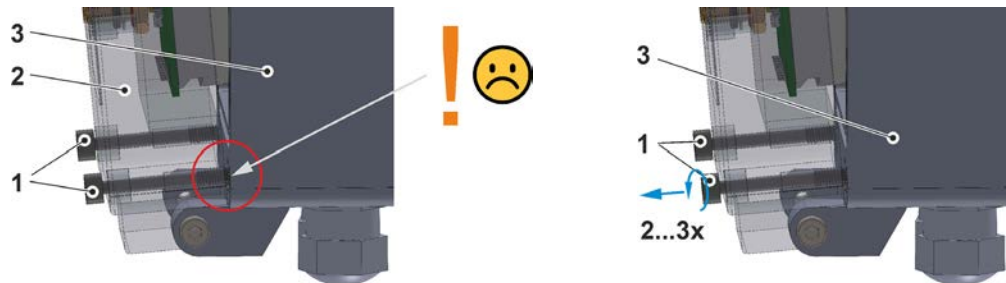

Fig. 23-3 Screw plugs: collision / unscrewing
- Step 1:** Unscrew six screw plugs (Fig. 23-2 Pos. 1 / Fig. 23-3 Pos. 1; special design) from the enclosure (Fig. 23-3 Pos. 3) until they can move freely in the bore of the housing flap (Fig. 23-2 Pos. 2 / Fig. 23-3 Pos. 2) but cannot fall out.
- Carefully fold down the housing flap (Fig. 23-2 Pos. 2 / Fig. 23-3 Pos. 2) to protect the hinge (do not drop it).